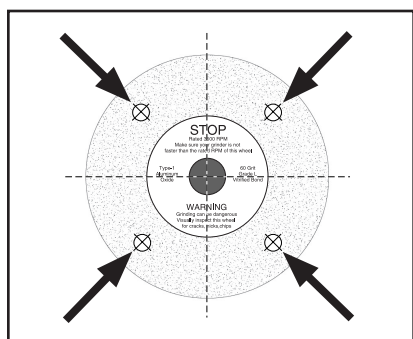

Figure 7. Ring test tapping locations.
3. At the spots shown in **Figure 7**, gently tap the wheel with a light non-metallic device such as the handle of a screwdriver or a wooden mallet.